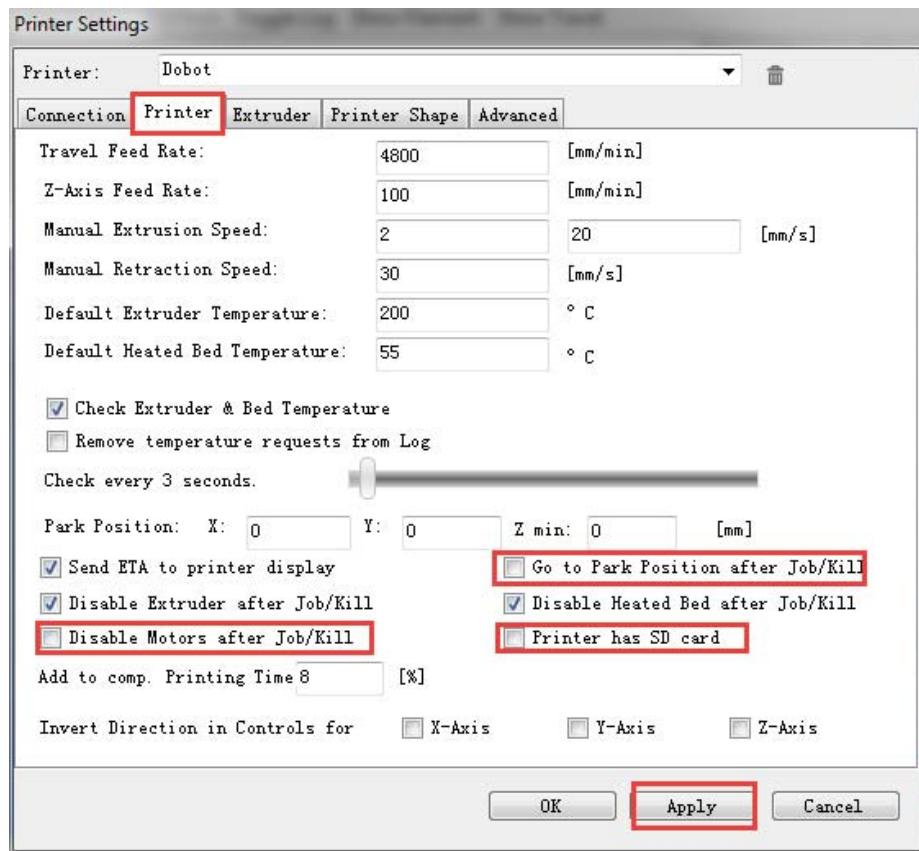

Figure 5.128 Unselect options
4. Unselect the corresponding options on the **Printer** tab as shown in the red box of Figure 5.128 and the other parameters are set by default. Then, click **Apply**.